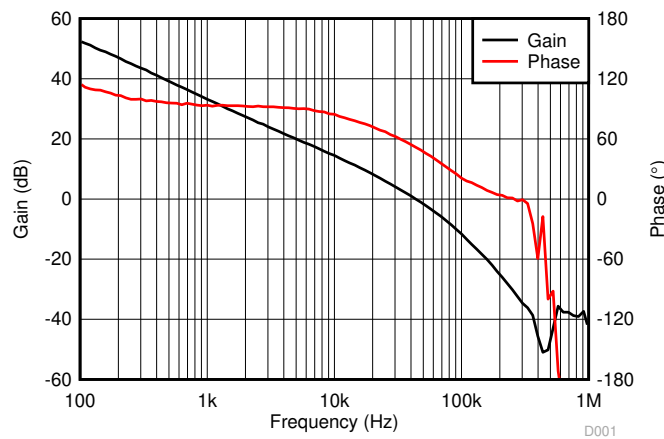

Figure 2-6. TPS54620EVM-374 Loop Response
Figure 2-6 shows the TPS54620EVM-374 loop-response characteristics. Gain and phase plots are shown for V_{IN} voltage of 12 V. Load current for the measurement is 6 A.
- Replaced Figure 2-6 8